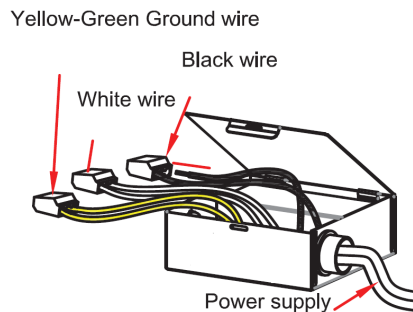

Fig 1
5. Connect the ground wire to the yellow-green wire in the junction box. Black wire to the black wire and white wire to the white wire with wire nuts (Fig 1)